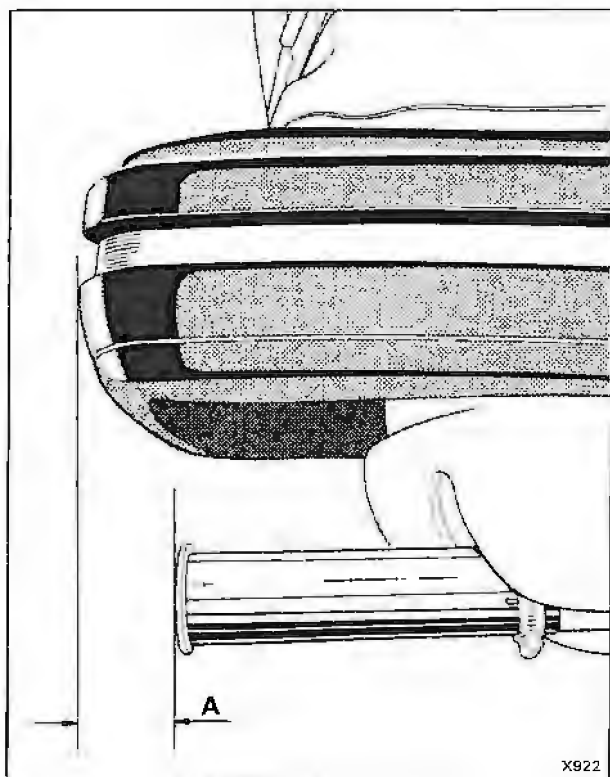

Fig. Q4-5 Tailpipe finisher setting
7. Set the tailpipe finisher 60 mm (2.364 in) in from the outer edge of the bumper (see fig. Q4-5).
6. Set the tailpipe finisher 60 mm (2.364 in) in from the outer edge of the bumper (see fig. Q4-5).